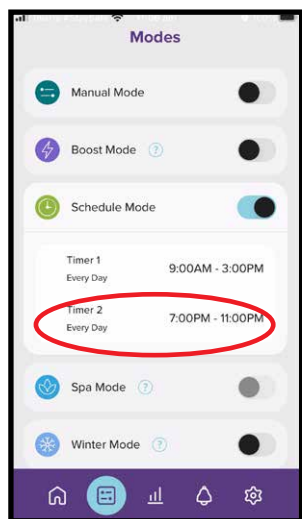

Figure 9.34
- In the “modes” menu, click the timer you wish to remove (refer Figure 9.34).